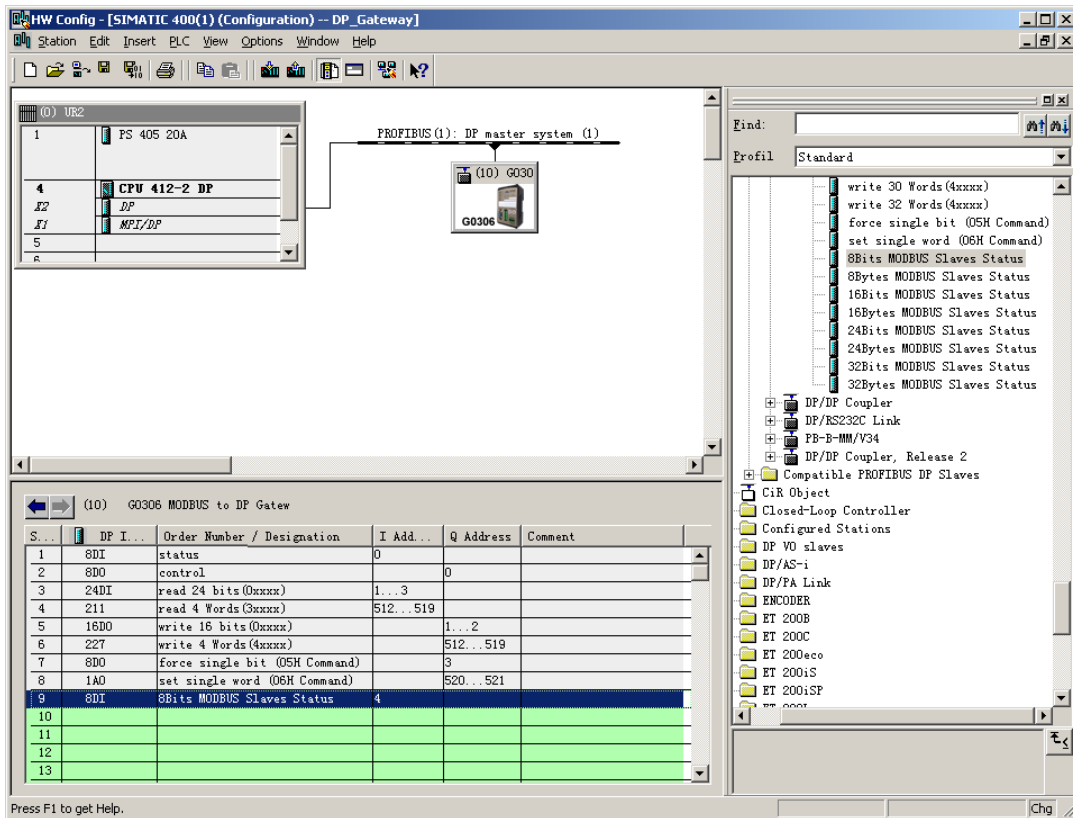

Figure 35 Add "8Bits MODBUS Slaves Status" Module
- b) **Add “8Bits MODBUS Slaves Status” Module, shown in Figure 35:**